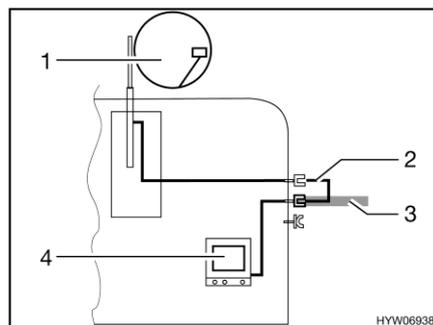

Fig. 123 TV inside the vehicle
- TV inside the vehicle (Fig. 123,4): Connection to roof antenna (Fig. 123,1) with connection cable (Fig. 123,2)
- TV inside the vehicle (Fig. 123,4): Connection to external antenna (Fig. 123,3)